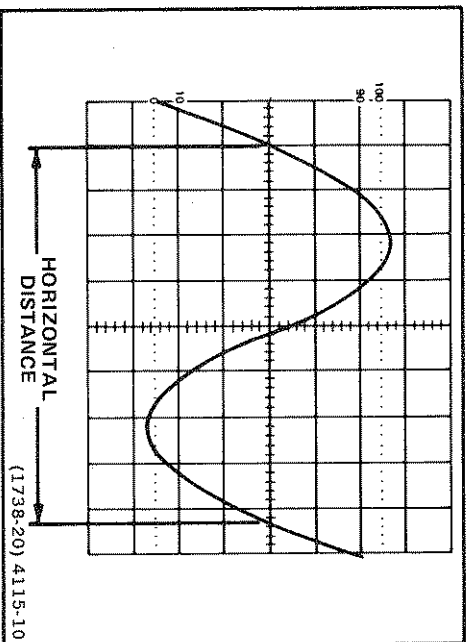

Figure 16. Time duration.
5. Position the display to place the time-measurement points on the center horizontal graticule line (see Figure 16).
**EXAMPLE:** The distance between the time-measurement points is 8 divisions (see Figure 16), and the A SEC/DIV switch is set to 2 ms. A magnification factor of 1 is used.
**EXAMPLE:** The signal in Figure 16 has a time duration of 16.6 ms.